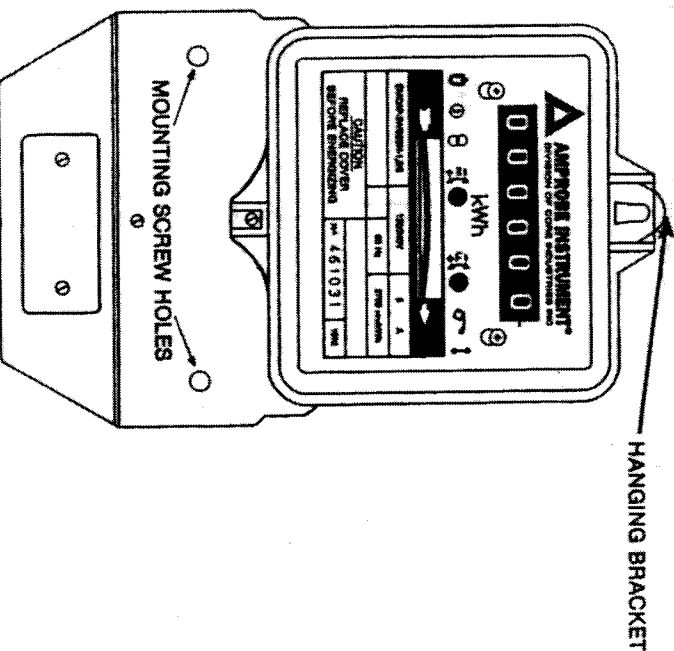

Figure 1
3. Hang the meter on the screw and install lower mounting screws (min 2 1/2" x 10p) in the pre-drilled holes. (see Fig. 1.)